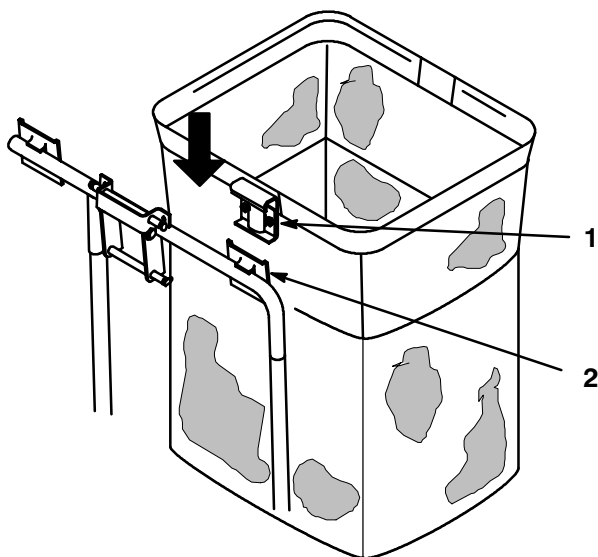

Figure 25
5. Install the bags by sliding the bag frame hooks onto the retaining brackets (Fig. 25).